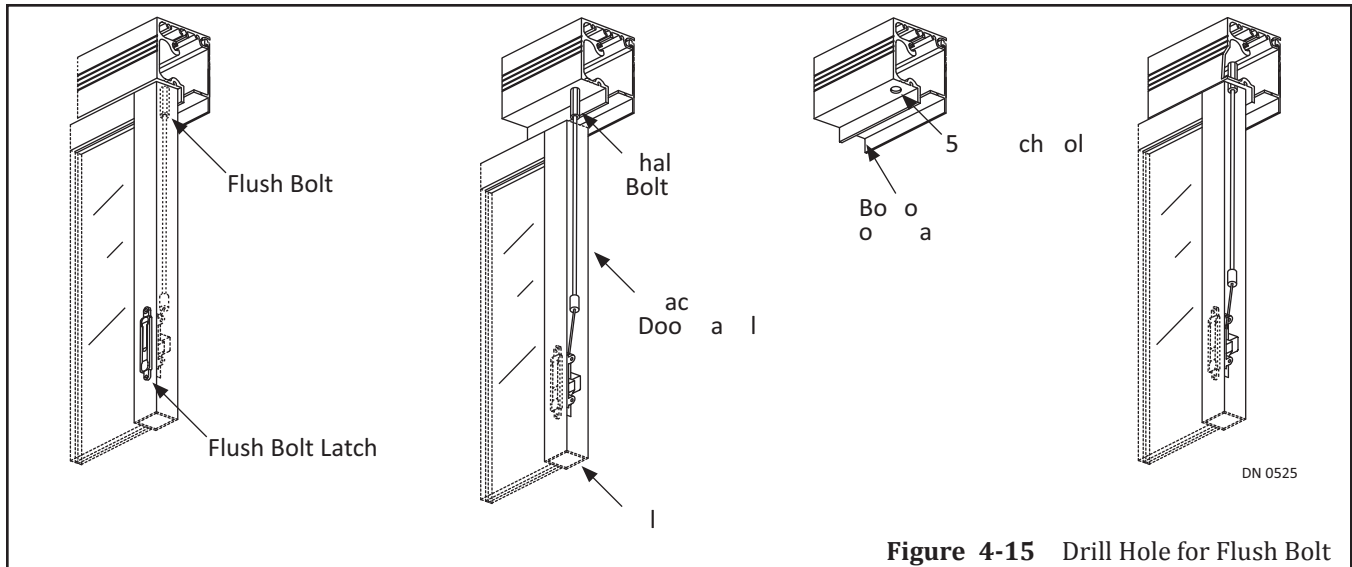

Figure 4-15 Drill Hole for Flush Bolt
2. Go to the top of Stile. Locate the Flush Bolt. Please see Figure 4-15.